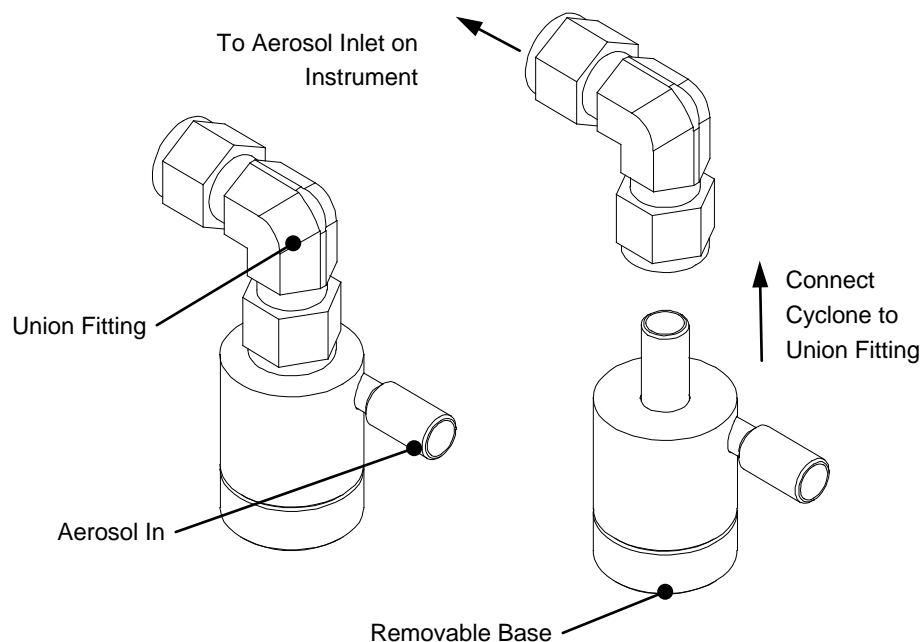

Figure 4-1
3. Connect the sample inlet to your sampling system using 0.19-in. ID conductive silicone tubing available from TSI [Model 300178 **or** install the supplied cyclone on the aerosol inlet using the supplied union elbow fitting shown in Figure 4-1. Make certain the components are tightly pushed together. Tighten the nuts on the union fitting finger tight and then one-half turn with a wrench (see Swagelok® recommendations).].